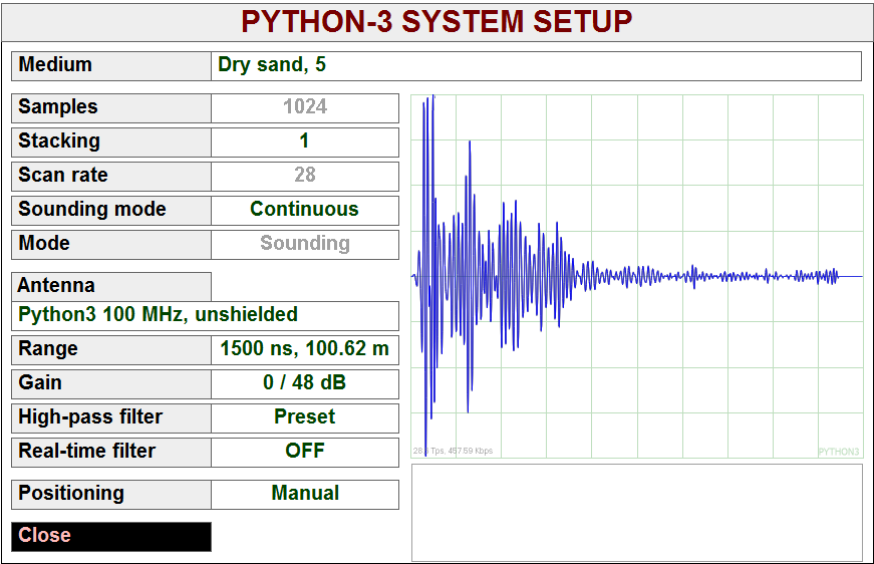

Fig. 9.2c. Python-3 GPR settings.
- **Python-3** GPR settings interface shown on Fig. 9.2c.